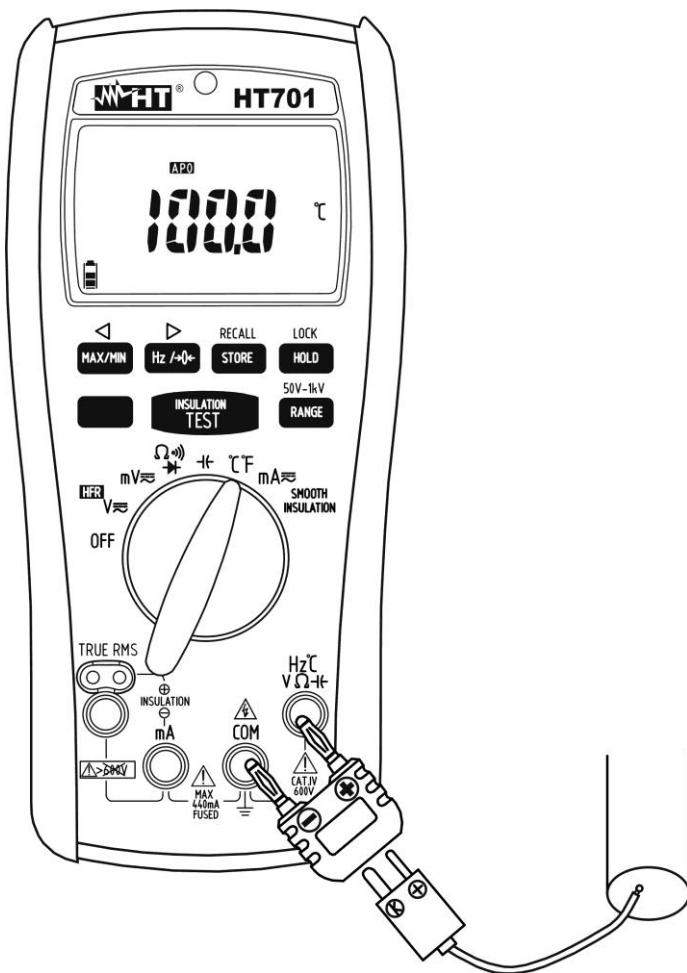

Fig. 9: Use of the instrument for Temperature measurement
3. Insert the provided adapter into the input terminals **Hz°CVΩHz** and **COM**, respecting the red and black colours found on it (see Fig. 9)